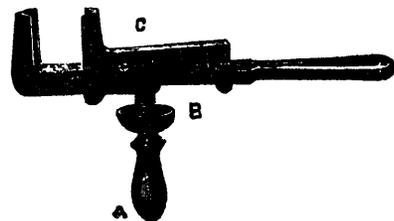

Fig. 1.
R. R. Rouse, of Indianapolis, Ind., is manufacturing some new and improved wrenches, of which we give illustrations on this page. Fig. 1 represents an axle nut wrench. When the sliding jaw C is in its proper position, the set-screw B is screwed up against it. This not only makes the jaw fast, but also tips it, so that when loose the nut is held and prevented from falling. When the wrench is adjusted the loose handle A is held in one hand, while the other handle shown can be turned rapidly. This wrench fits any vehicle, from a coach to a track sulky.